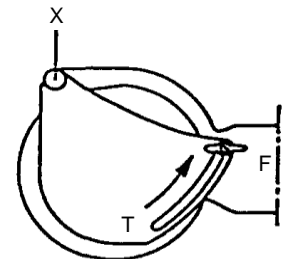

Fig. 7.7 – Setting the depth stop
These machines are equipped with an adjustable depth stop (T), see *Fig. 7.7*.